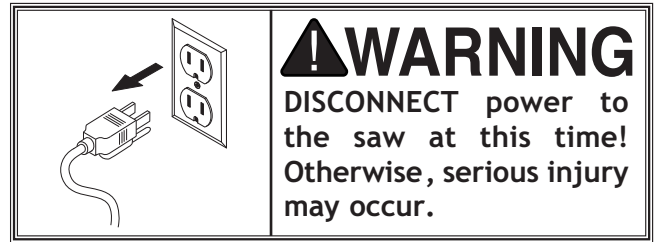

Figure 13. Fence adjustment setscrews.
4. Adjust the setscrews shown in **Figure 13** to adjust the angle of the fence. Note— *The left setscrew will move the fence left and the right setscrew will move the fence right.*